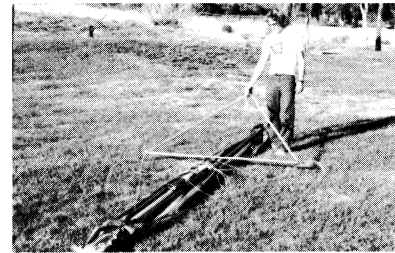

Fig. 17
(16) Pick up control bar, rotate 180°, and keep bar lifted so you can see the flying wires separate (See Fig. 16). Then move bar rearward and lay on top of glider so that control bar base bar is just behind the rear keel tube (See Fig. 17).